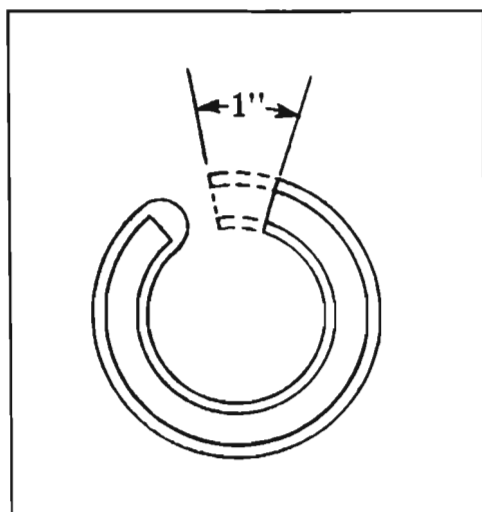

Figure 7-24—Removal of Stock from Shim
2. Remove 1" of stock from end of shim as shown in Figure 7-24.